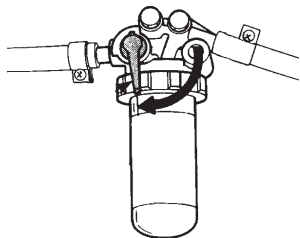

Figure 13. Fuel cock set to 'ON' position
1. Turn the fuel cock lever to the "ON" position (Figure 13).